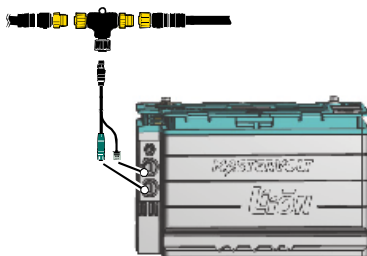

Figure 6: Mastervolt-CZone drop cable
- CZone: connect the drop cable. On the battery side, plug the connectors into either of the communication ports. See Figure 6 on page 15.